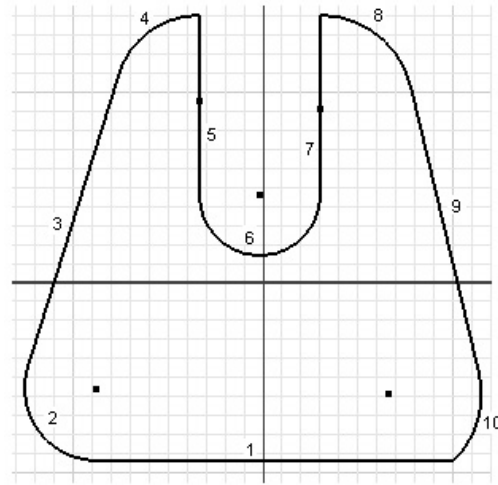

Figure 3-59 Profile with geometries numbered
- Start a new metric template and draw the outer loop of the sketch, refer to Figure 3-59.
1. To draw the outer loop, invoke the **Line** tool from the **Draw** panel in the **Sketch** tab, refer to Figure 3-59.
The outer loop that you created in the previous step might be different from the one shown in Figure 3-59. You can find the missing constraints by following the next step and applying constraints accordingly.
Adding Constraints to Sketched Entities As evident from Figure 3-59, some of the constraints such as tangent and equal are missing in the sketch. The sketch shown in Figure 3-59 may not be symmetrical and all the lines in the sketch may not be tangent to the arcs. Therefore, you need to add these missing constraints manually to the sketch to complete it. You can choose the **Show Constraint** option from the Marking menu that is displayed when you right-click on an entity.
1. In Figure 3-59, the **Tangent** constraint is missing between line 1 and arc 10. To add this constraint between the line and the arc, choose the **Tangent** tool from the **Constrain** panel of the **Sketch** tab; you are prompted to select the first curve. Select arc 10 as the first curve; you are prompted to select the second curve. Select line 1 as the second curve. Similarly, add this constraint to all the places in the sketch wherever it is missing.